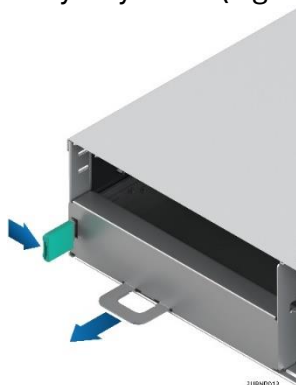

Figure 22. Removing the dummy tray cover
1. While pressing the latch, pull out the dummy tray cover (Figure 22).